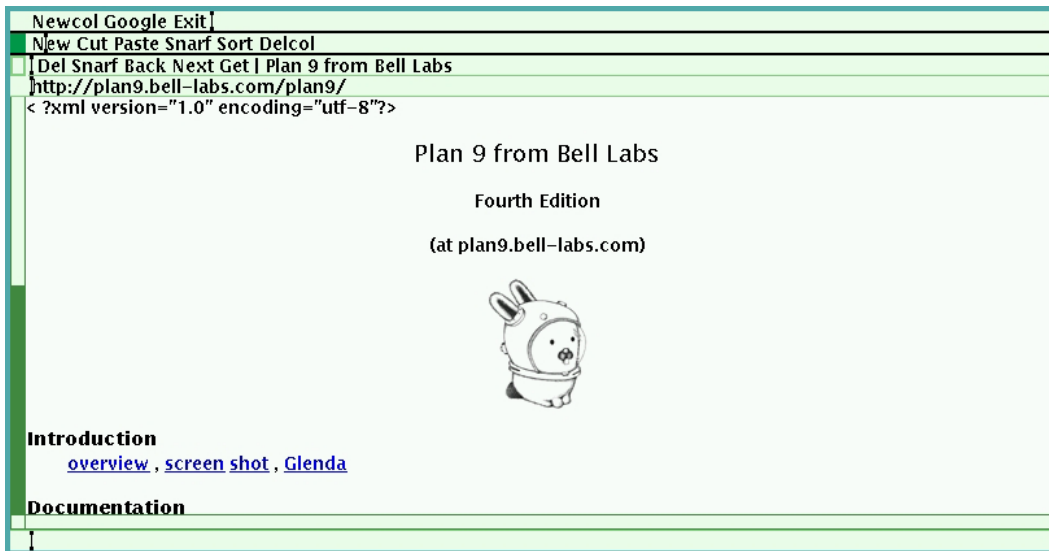

Figure 11-22. The Abaco web browser
5. In the lowest empty green box, enter the web site URL. In Figure 11-22 you can see I have browsed to the Plan 9 home page.